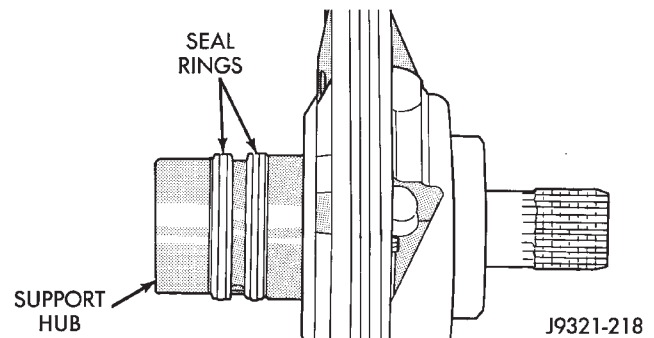

Fig. 128 Hub Seal Ring Position
(6) Install new thrust washer on hub of reaction shaft support. Lubricate washer with transmission fluid or petroleum jelly.
(7) If reaction shaft seal rings are being replaced, install new seal rings on support hub (Fig. 128). Lubricate seal rings with transmission fluid or petro-